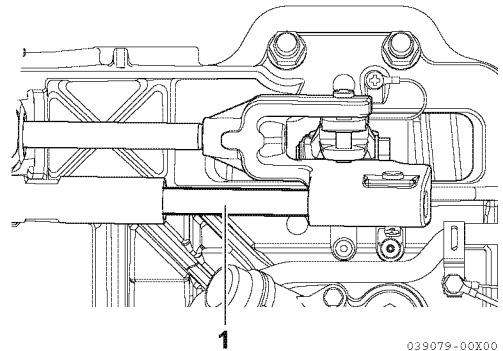

Figure 6
2. Turn the steering wheel until the steering cable (1, **Figure 6**) is fully extended. Lightly lubricate the exposed part of the cable.